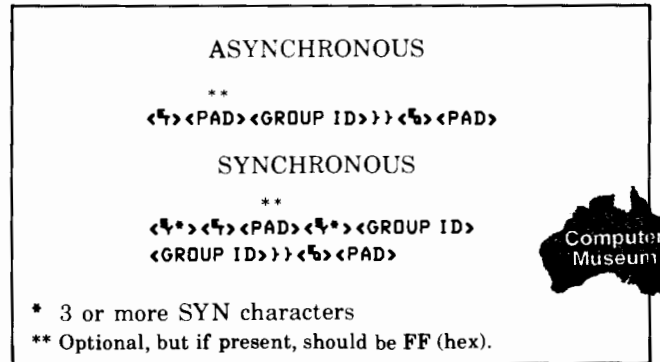

Figure 7-22. Status Request Sequences
**CONFIGURATION STATUS - WHO ARE YOU (WRU).** The Who Are You (WRU) control sequence is a status request from the computer to a terminal group. It is similar to a group poll except that the terminals respond with status information instead of the normal text data. All terminals in the group that are turned on will send in their status. Figure 7-22 illustrates the general format of the status request sequence for both asynchronous and synchronous configuration environments. The right brace character (175 octal) is used in place of the device I.D. This tells the terminal that a status request is being made.